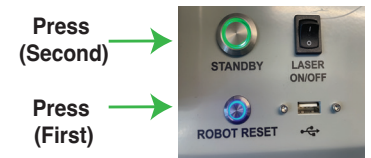

Fig. 3-5
5. Place the controller module near the robot (see Fig. 3-1, Fig. 3-5 for details of the connectors).
6. Connect the supplied Ethernet cable between the controller module and robot. Note the connector at the controller module is a standard USB-A while at the robot end it is a round connector that requires that you screw on the connector (see Fig. 3-5).
8. Plug the robot power cable (that comes out of the rear of the controller module) into the upper connector of the robot panel (see Fig. 3-5).